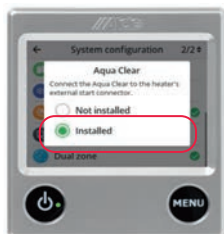
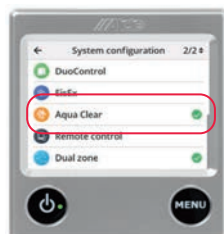

fig. 6
fig. 7
3. Press AquaClear and select 'Installed' in the check box, fig. 6. A green check mark will now show that AquaClear is selected, fig. 7. Alde AquaClear UV-C is now installed in the control panel.